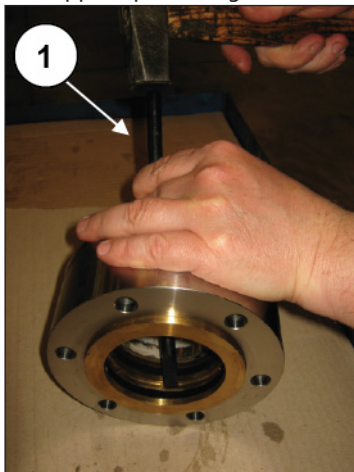
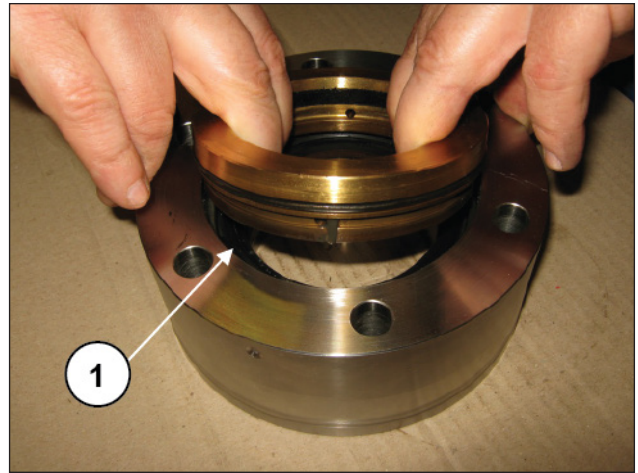

Fig. 212
Fig. 213
Use the plastic special tool and a slap hammer to extract and remove the seals support (pos. ①, Fig. 212 and Fig. 213).